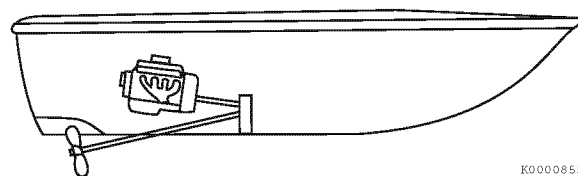

Figure 4-6
- V-drive (**Figure 4-6**)
In this configuration, the output shaft of the marine gear forms a V-shape with the input shaft. The propeller shaft leads aft compared with propeller angle drive and the engine is installed with the driveshaft facing forward (**Figure 4-6**). The advantage of this type of marine gear is that a stern engine installation leaves more room for living space.